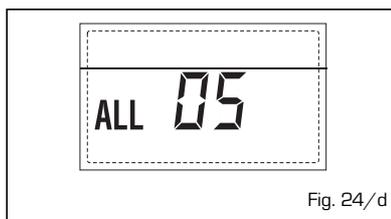

Fig. 24/d
- **BLOCCO FIAMMA "ALL 06"** (fig. 24/e)